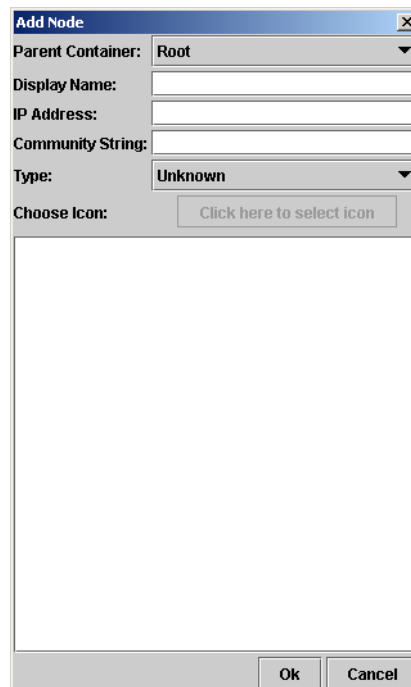

Figure 10. Add Node window
2. Select a parent container (see figure 10). The new node be created under this container.
3. Enter a display name (see figure 10) (this is the name that the ForeSight 6100 displays to the user).
4. Enter a community string (see figure 10). This is usually the “read” community string (see section “Community String” on page 45), but in certain circumstances .
5. Select a device type (see figure 10).
6. If the *Choose Icon:* option (see figure 10) is enabled, click the menu and select an icon.
7. Add any comments in the large text area (see figure 10 on page 21).
8. Click the **OK** button (see figure 10 on page 21) to save the changes.